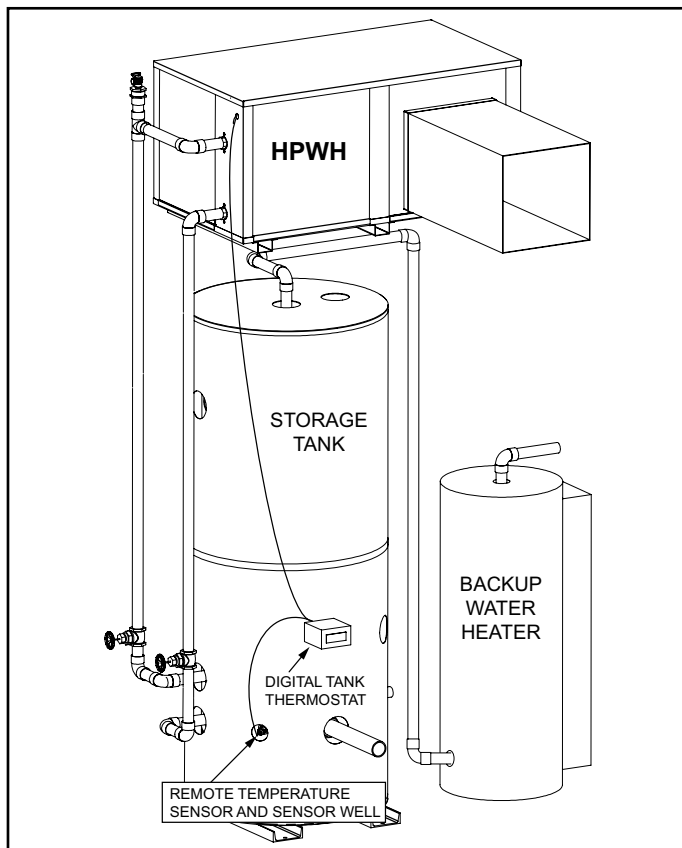

Figure 10
1. Mount the thermostat on the storage tank jacket when or at a suitable location close to the storage tank, see Figure 10.